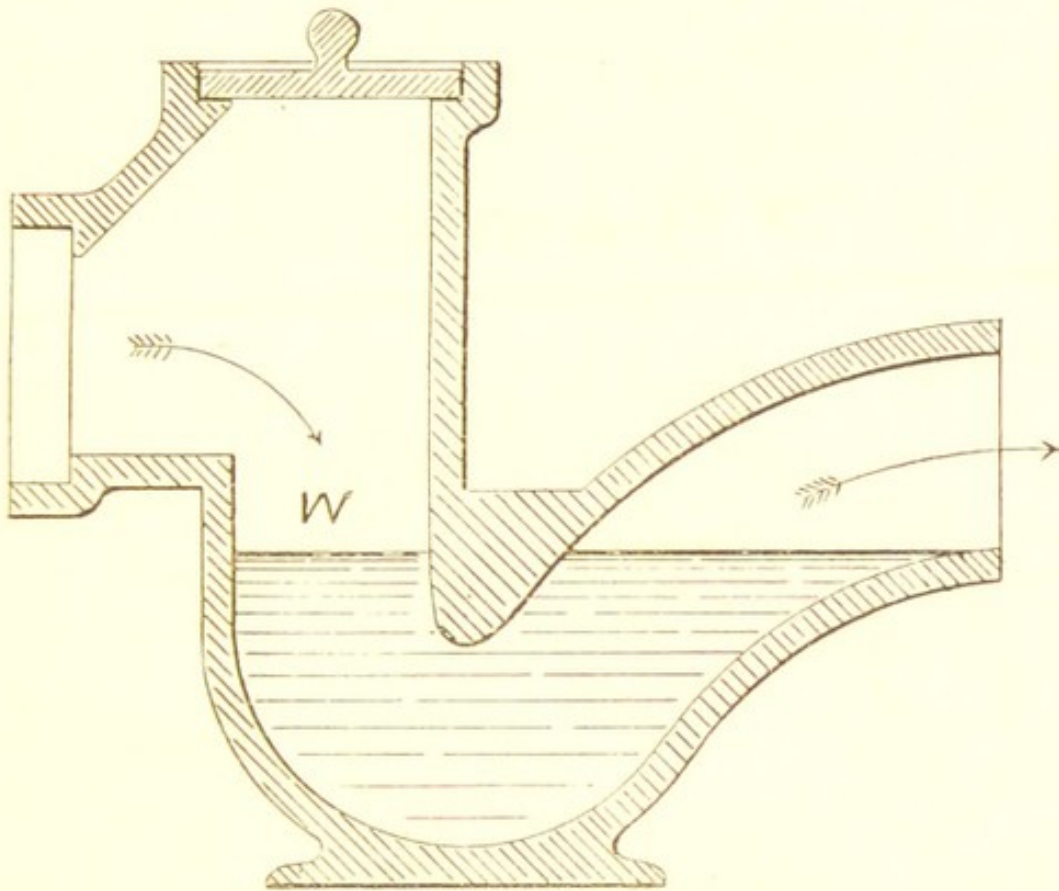

FIG. 16.
*Buchan's Trap* (Fig. 16) is a much improved design. It has 3 in. difference between inlet and outlet, thus forming an excellent cleansing cascade action, which in all traps, as before stated, is an essential detail. The surface of the water at  $W$  is small, and the rapid flow through the trap breaks up and drives before it all fœcal and other matter.